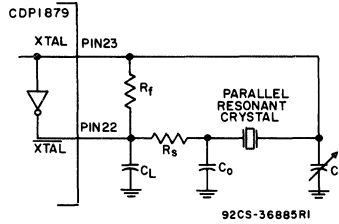

Fig. 6 - Suggested oscillator circuit applied to real-time clock (see Table 111).
1. An external crystal that is used with the on-board oscillator. The oscillator is biased by a large feedback resistor and oscillates at the crystal frequency (see Fig. 6, Table III).
TABLE III - Typical Oscillator Circuit Parameters for Suggested Oscillator Circuit, see Fig. 6